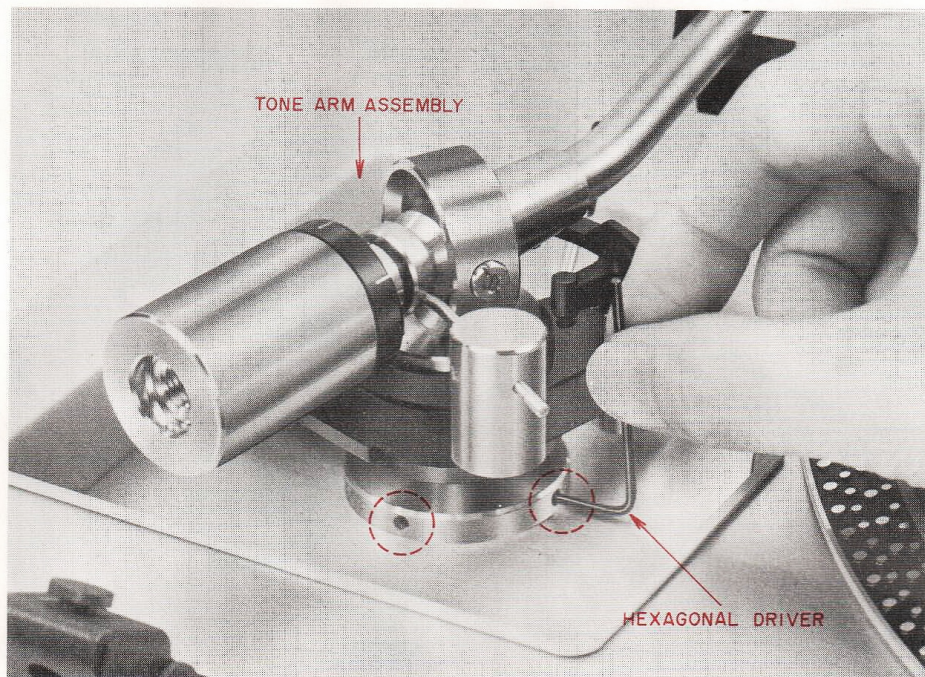

Fig. 5
### 3. TONE ARM HEIGHT ADJUSTMENT (Refer to Figs. 5 and 6)
- 1) Use a hexagonal driver as shown in Fig. 5 and loosen the two screws at the base of the tone arm assembly.